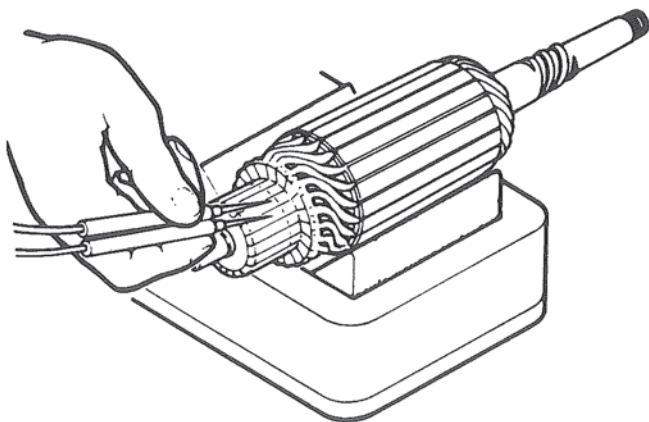

Figure 7. Armature Balance Test.
- A. Place armature in growler jaws and turn power switch to GROWLER position. Figure 7.